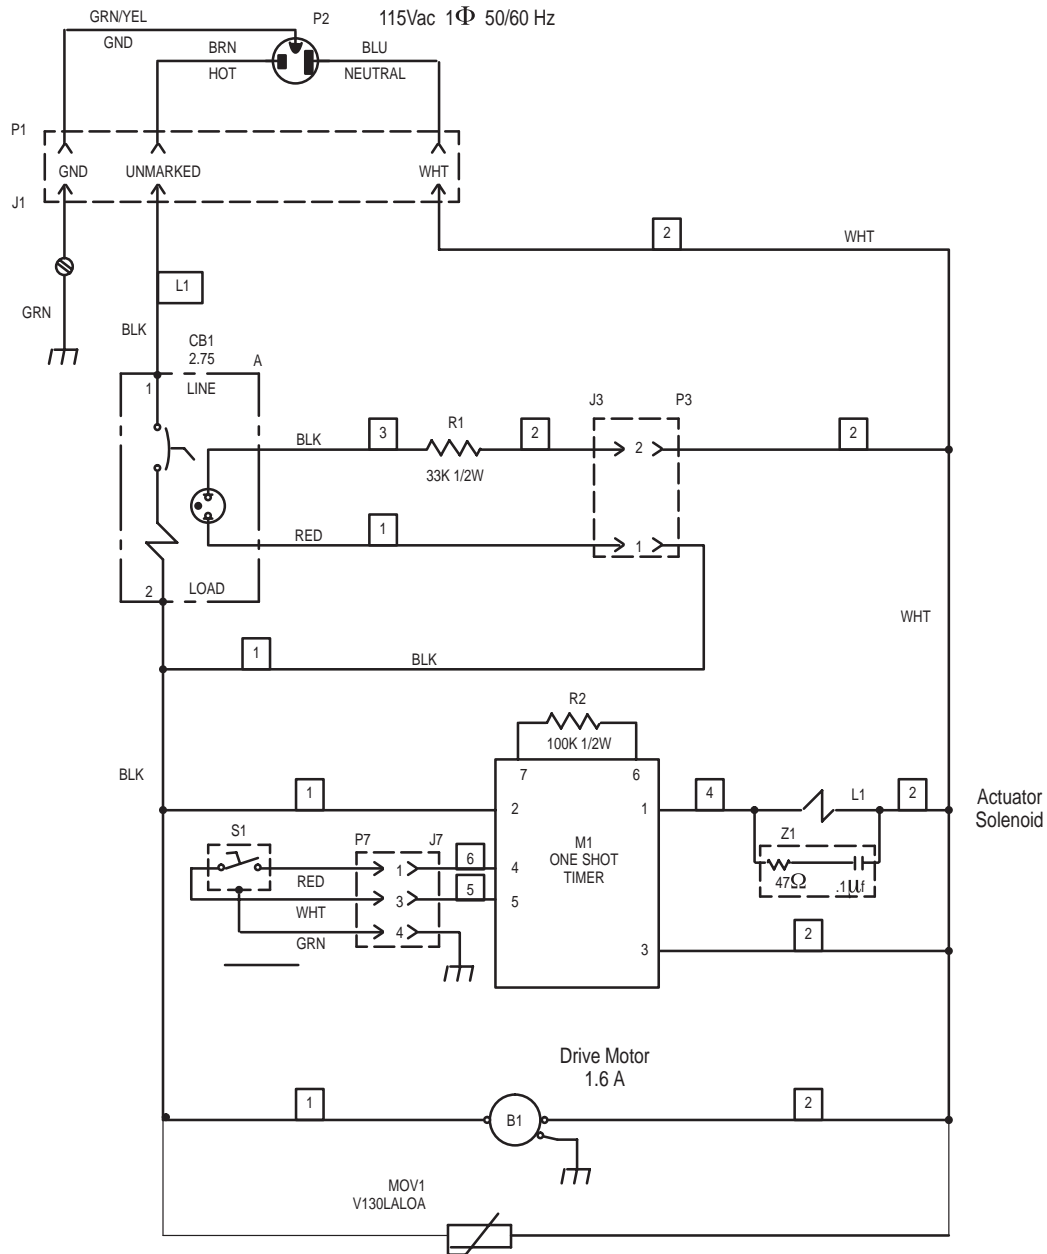

Figure 4
2.3. Electrical System Description (Figure 4)
3. Inspect wiring for evidence of chafing, loose connections, or damage. (Refer to Figure 4 for electrical schematic).